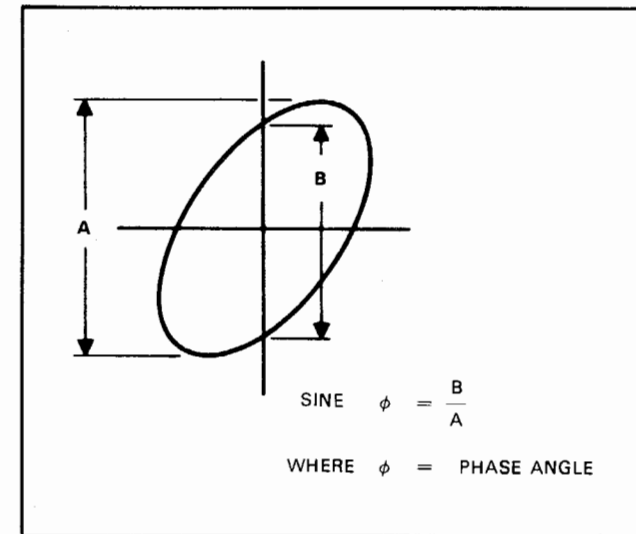
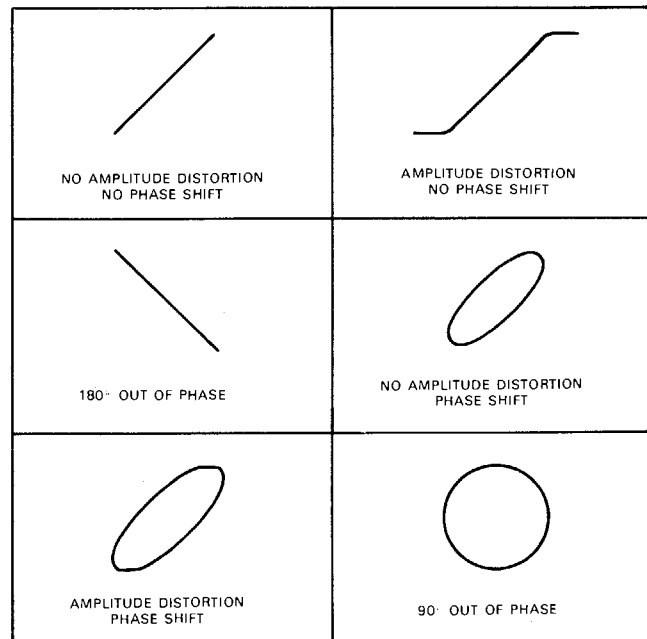

Fig. 21 Phase shift calculation
Fig. 20 Typical phase measurement oscilloscope displays
- Some typical results are shown in Fig. 20. If the two signals are in phase, the oscilloscope trace is a straight line. If the vertical and horizontal gain are properly adjusted, this line is at 45°. A 90° phase shift produces a circular oscilloscope pattern. Phase shift of less (or more) than 90° produces an elliptical Lissajous' pattern. The amount of phase shift can be calculated by the method shown in Fig. 21.